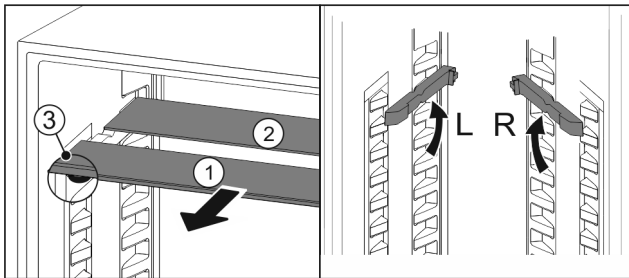

Fig. 113
- Pull the glass panels out Fig. 113 (1) from the front, one at a time.
- The glass panel Fig. 113 (1) and trim strip are at the front.
- The stops Fig. 113 (3) point down.